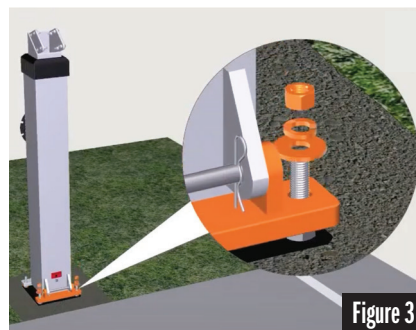

Figure 3
- Slide the Base Pole onto the J-Bolts with the hinge side closest to the court & the slotted holes furthest away. Secure front, courtside bolts with (2) Flat Washers, (2) Lock Washers and (2) 5/8\" Nuts. See Figure 3.